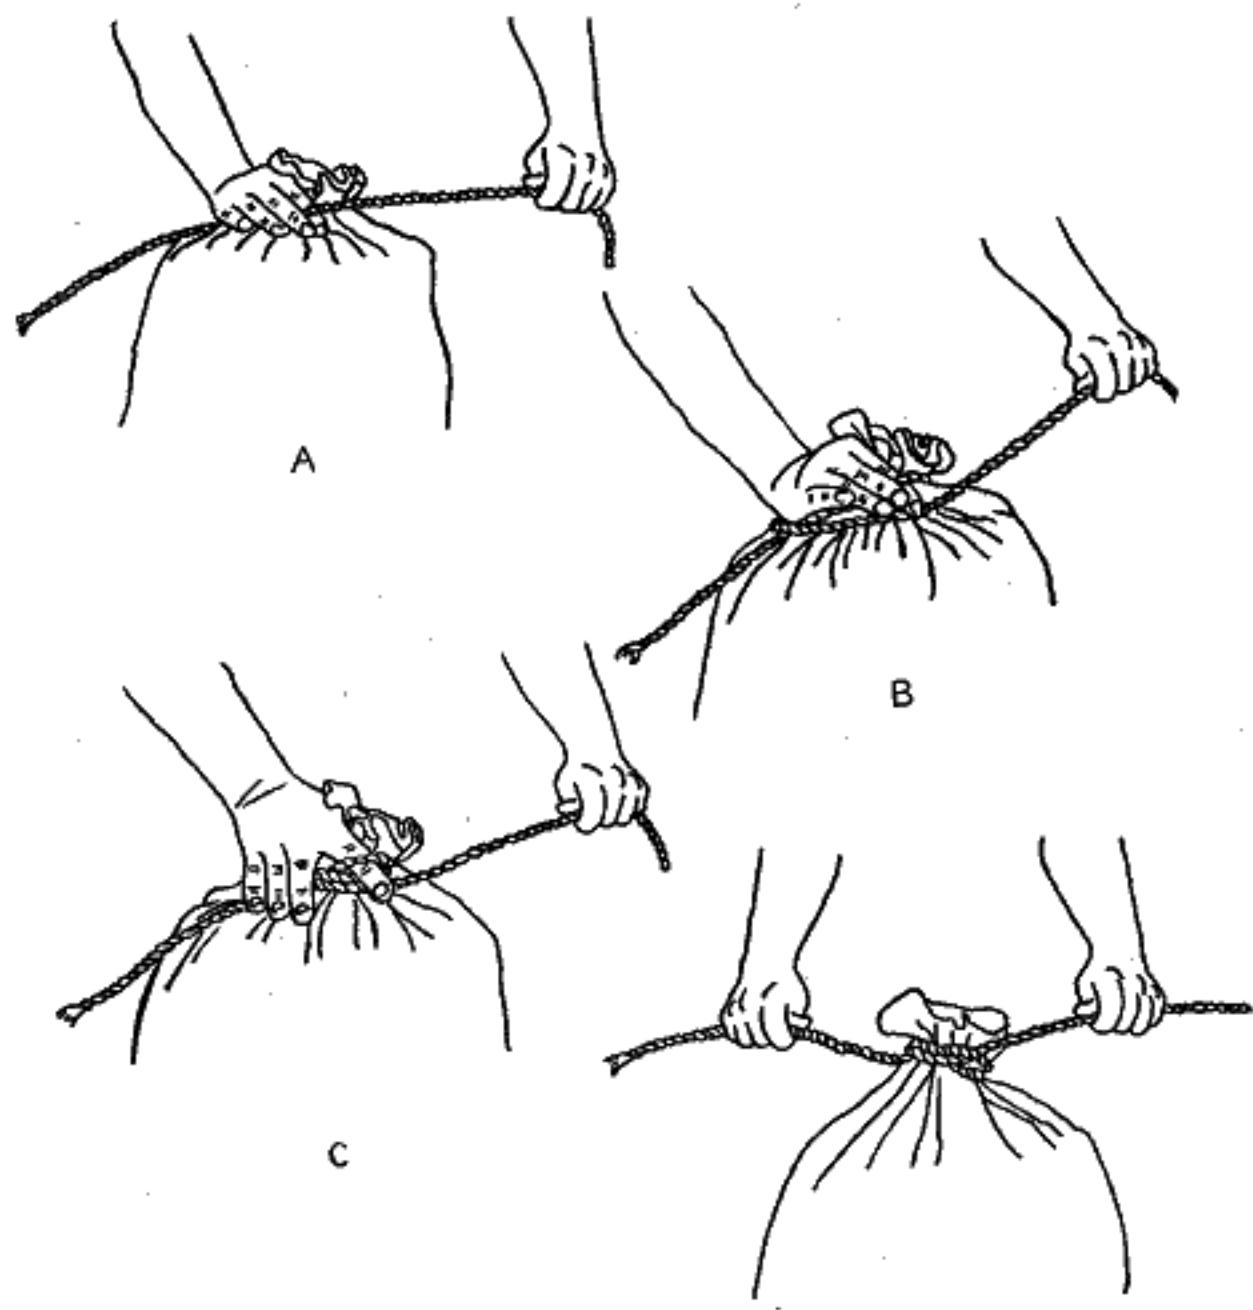

FIG. 333.—The miller's or grain-sack knot.
**394. The miller's knot** (Fig. 333) is by far the best knot for tying grain sacks. It is easily tightened by pulling on the ends of the completed knot, holds securely, and is easily untied. The end of the bag is gathered and held tight between the thumb and first finger of the right hand. The tie string is placed across the front of the bag, under the last three fingers, but over the first finger of the right hand. The string is then taken around the neck of the sack, under the heel of the right hand and under all fingers, but over the end of the string. The string is then wound around the neck of the sack a second time in the same manner. The first finger of the right hand then pulls the end of the tie up under the loop which was formed over the finger when the knot was started. The knot is completed by drawing the ends tight.